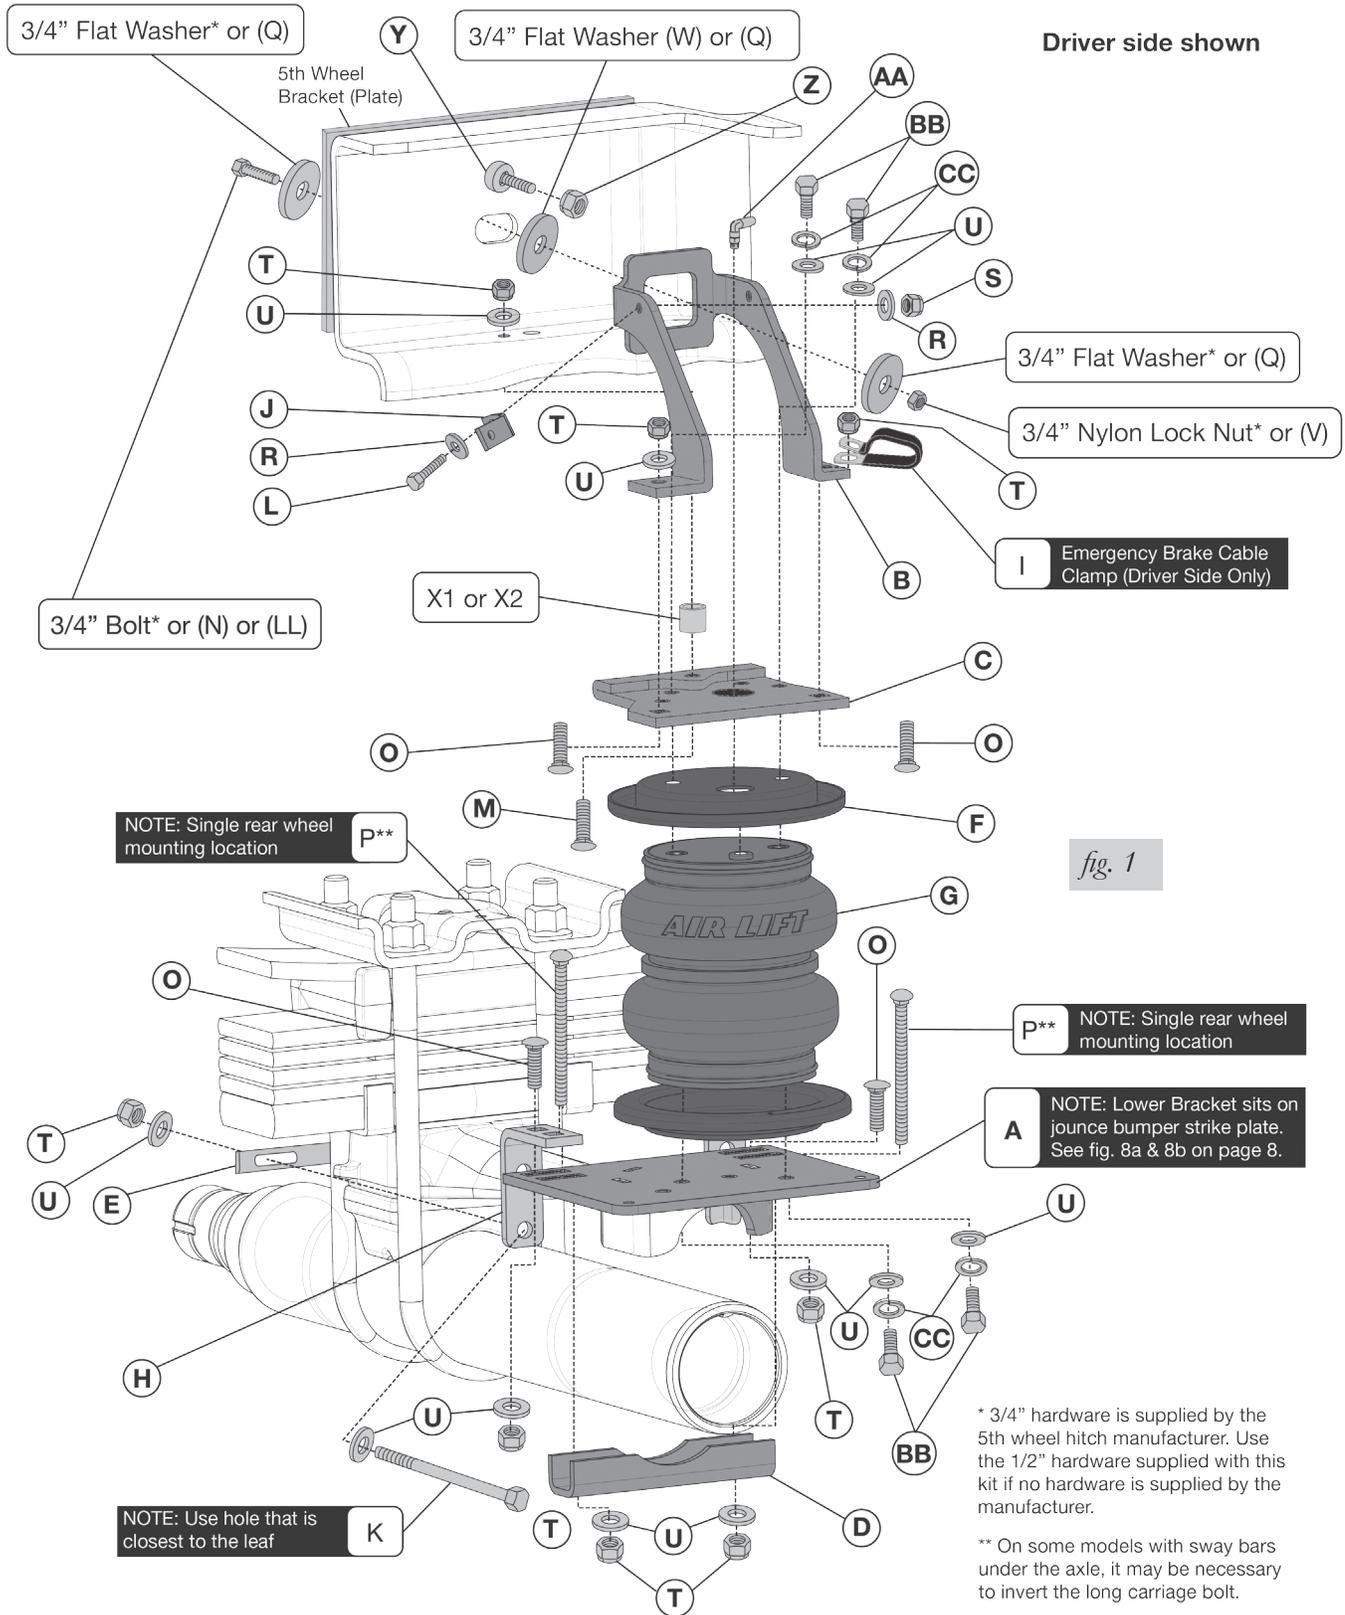

fig. 1
5. If you have a fifth wheel hitch already installed, it will be necessary to remove the 3/4" hardware that bolts the side bracket to the outside of the frame above the axle (Fig. 1).
6. In order to obtain clearance between the upper bracket and the emergency brake cable bolt, on the inside of the frame, it will be necessary to remove the bolt and reinsert through the emergency brake cable bracket, from the outside of the frame in. Install the 7/16" spacer (Y) on the bolt and cap with the new M10-1.5 nylon lock nut (Z) (Fig. 1). Tighten hardware securely.
- *Attach the L-bracket (J) to the back or front leg of the frame brace using the 1/4"-20 x 1" hex head bolt (L), flat washers (R) and 1/4"-20 nylon lock nut (S) supplied (Fig. 1). This L-bracket will eventually be used to attach the previously removed emissions line. Do not attach the line holder to it at this time.*
If you have an aftermarket fifth wheel hitch that has a bracket (plate) running along side of the frame and it used this slot to secure the bracket to the frame with existing hardware, install the existing hardware previously removed in the "getting started section" from the fifth wheel installation for securing the brace (Fig. 4). Make sure to install the large 3/4" flat washer (W) between the brace and frame (Figs. 1 & 4). Do not tighten at this time.
1. Set a roll plate (F) over the top and bottom of the bellows (G) (Fig. 1).